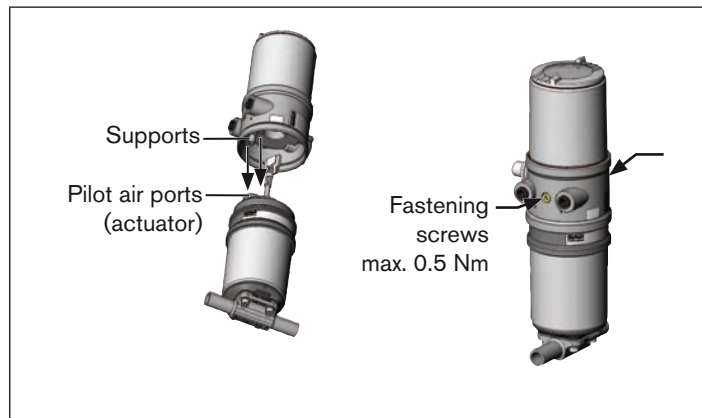

Fig. 5: Installation of control head, 21xx series
2. the supports of the control head can be inserted into the pilot air ports of the actuator (see also "Fig. 5").